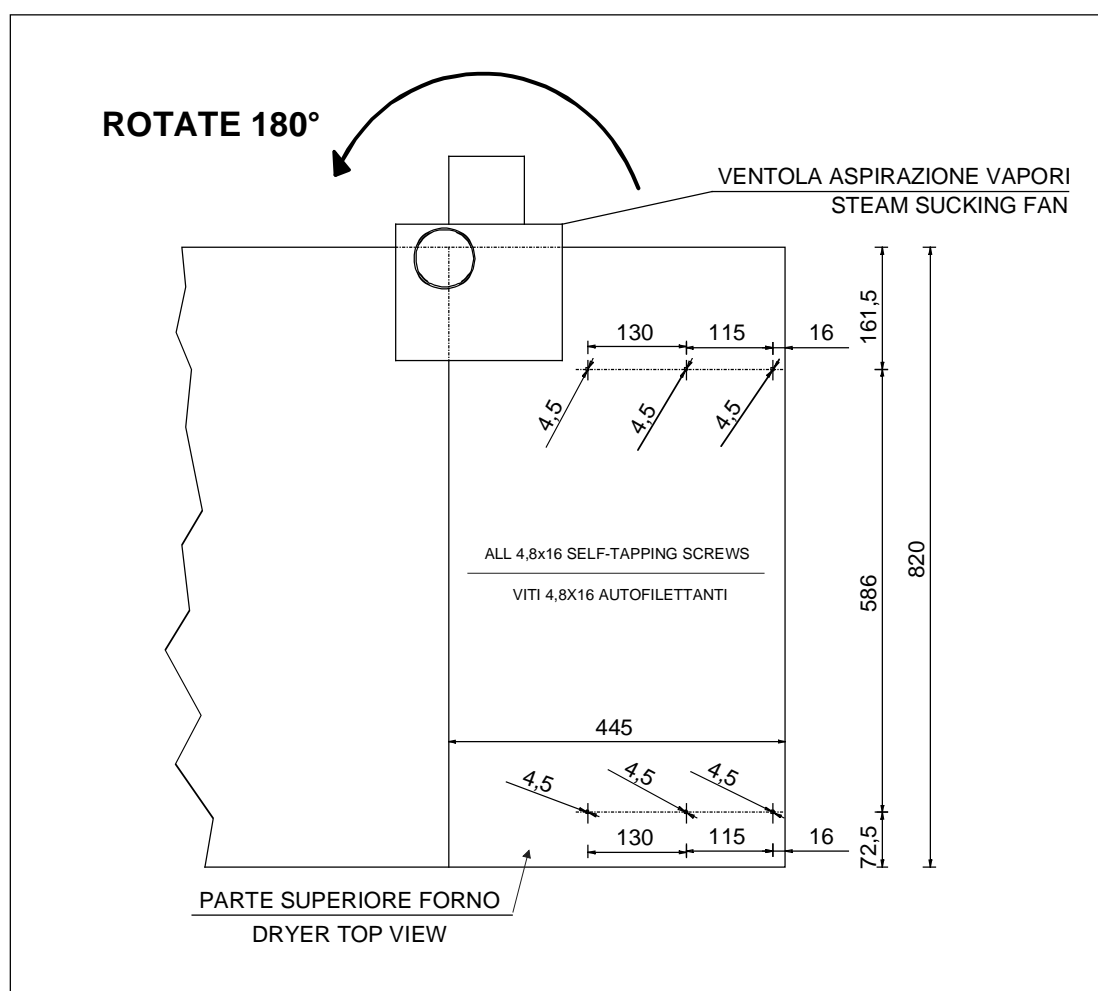

Fig.111 - Mounting the HSCutting Station
- 1) Rotate the fan placed over the processor dryer, as shown in fig. 111.
- 2) Mount the motorized transport unit. The positions of the mounting holes are shown in fig. 111.